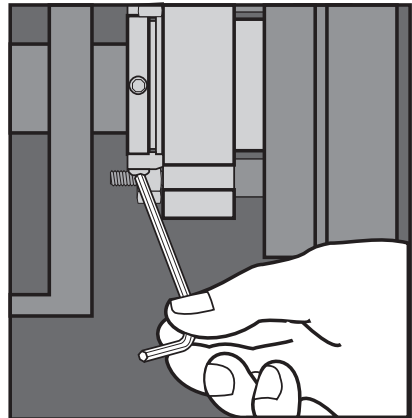

Figure 6
2.8 **Remove the setting devices** from the drive collar. See Figure 6. Save the setting devices for future use when the pump impeller is reset or when the seal is removed for repairs.